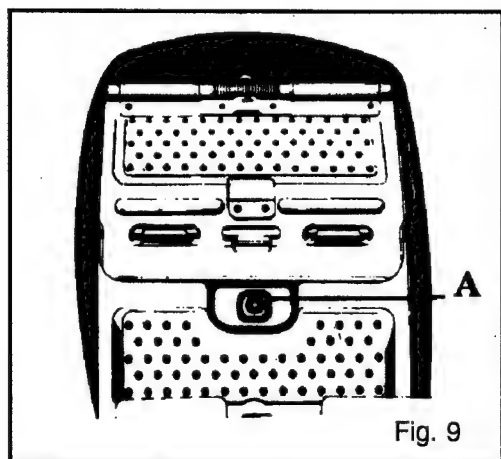

Fig. 9
- Open the drum with both your hands by pressing the release button (A). The 2 flapdoors will open outward on a spring giving access to the drum. **Take care, the spring is strong.**
- Shake your washing out loosely and place into the drum ; close the drum and shut the door, **ensuring that button (A) is raised.** See Fig. 9.